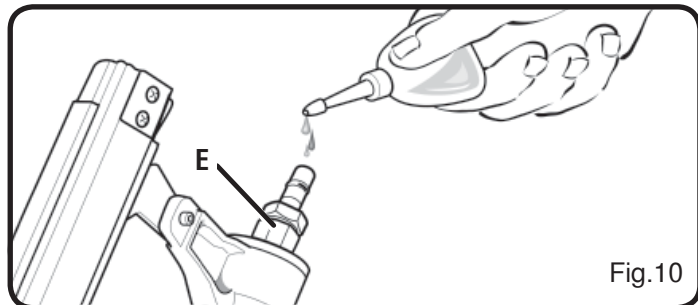

Fig.10
Before using the brad/nailer for the first time and after each use, lubricate air inlet (E) of the brad/nailer (Fig. 10).